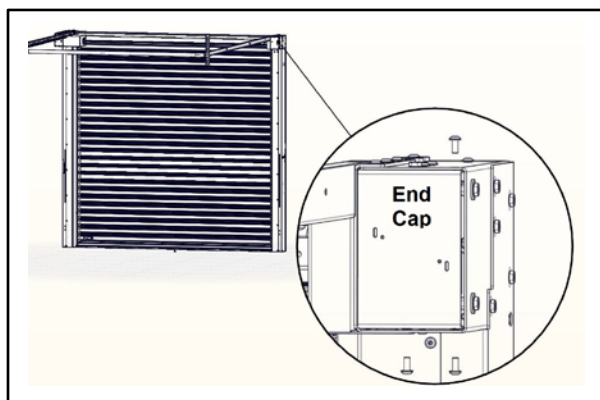

Figure 65
5. At the ends of the door panel to be replaced, remove the two TORX® head screws securing each hinge plate to the panel. (See Figure 65.)
4. Remove the associated end cap from the head assembly to expose the upper end of the spring strap. Each end cap is held in place with three, 20-mm-long, TORX head screws. (See Figure 65.)